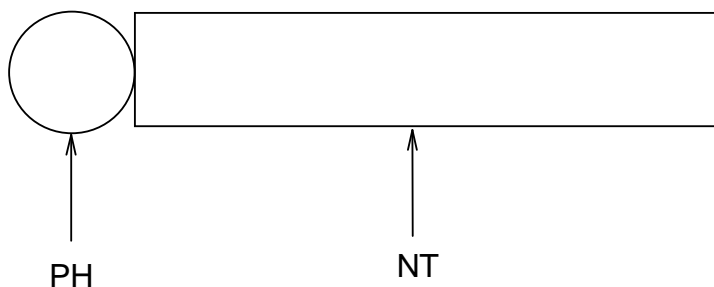

Fig. 1
A surfactant molecule can generally be modelled as Fig. 1 where a circle presents the polar head (PH), i.e. the hydrophilic part of the molecule, and a rectangle represents the non-polar tail (NT), i. e. the hydrophobic part of the molecule.
- i) Using the model as shown in Fig. 1, draw a micelle with 10 AOT molecules under the given condition.